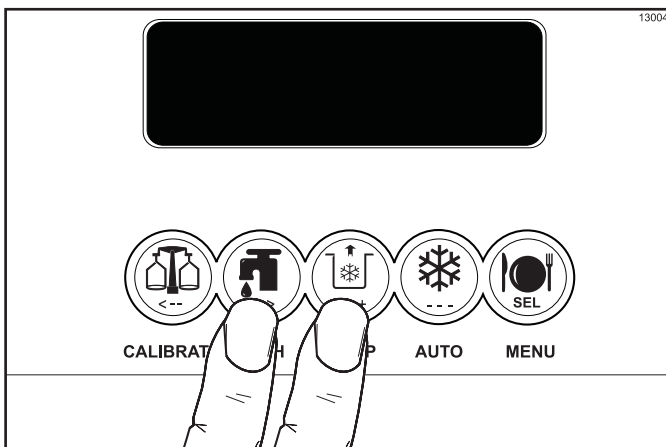

Figure 6-38
- Press the WASH and PUMP keys to stop the Wash and Pump modes. Close the draw valve. (See Figure 6-38.)